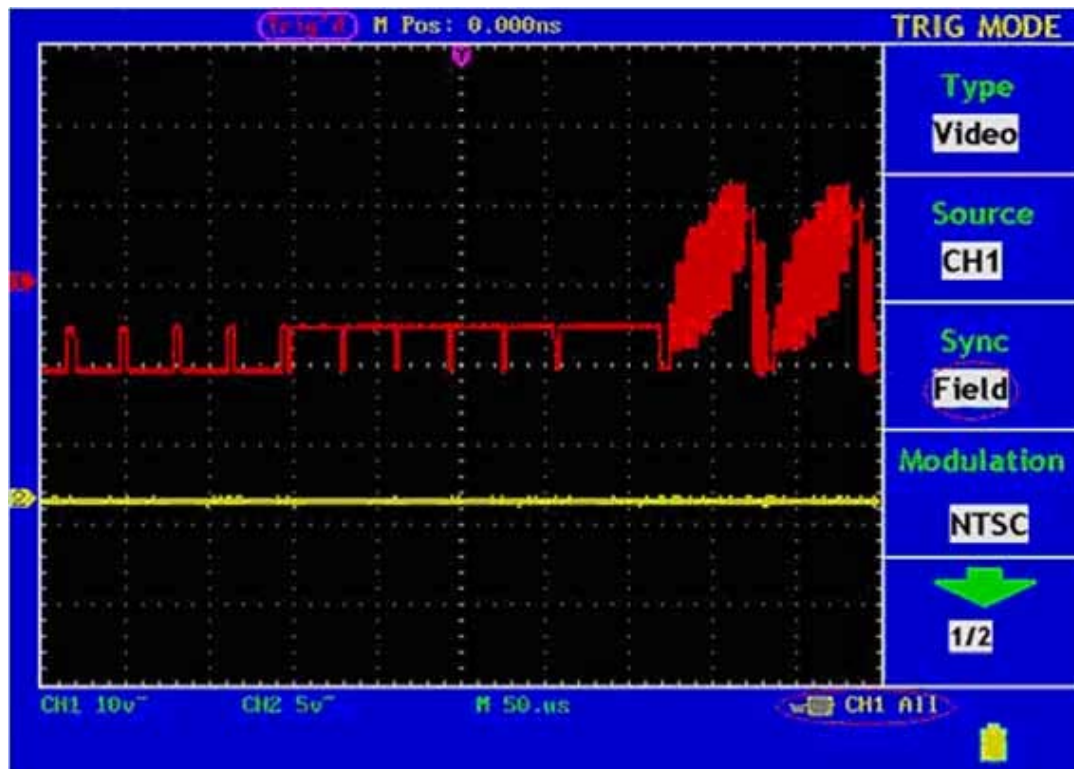

Fig. 63 Wave Form Obtained from Video Field Trigger
5. Adjust the **VOLTS/DIV**, **VERTICAL POSITION** and **SEC/DIV** knobs to obtain a proper wave form display (see Fig. 63).